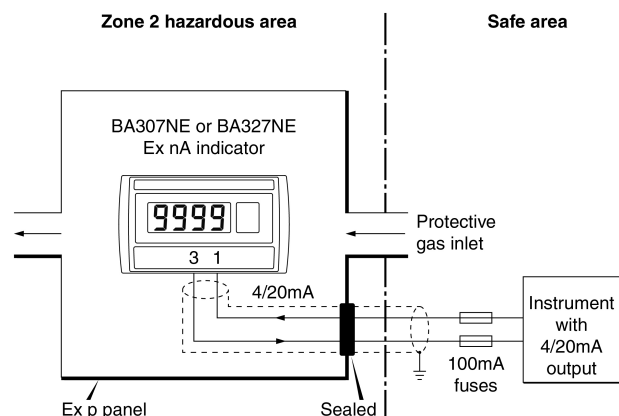

Fig 21 Typical installation in Ex p panel enclosure
Fig 21 shows a typical installation within an Ex p pressurised enclosure located in Zone 2.
1. The indicator must be installed in the panel of an Ex p enclosure generally as shown in section 5 of this manual and in Fig 21.